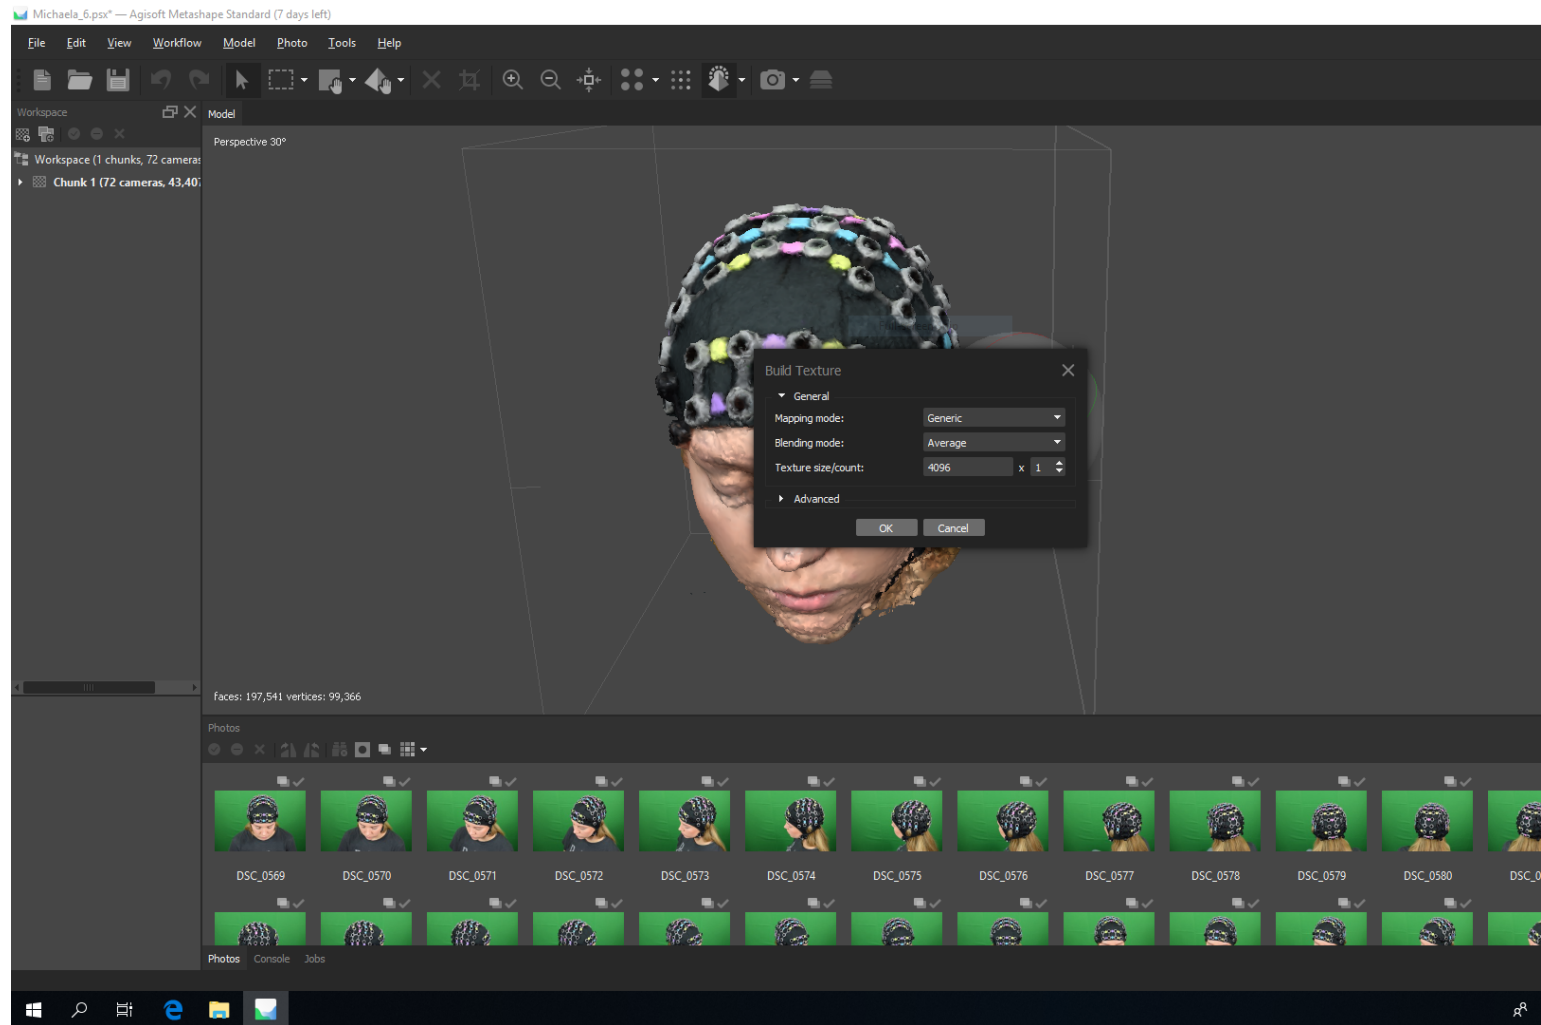

Figure 24. Building texture in metashape
11. Select “workflow”, “build Texture” with settings “average” (Figure 24).